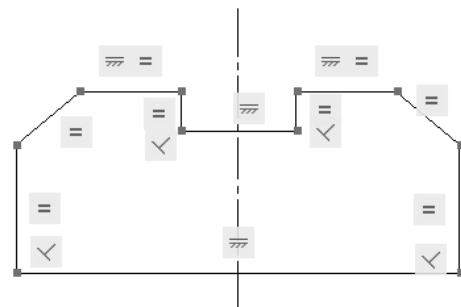

Figure 11-13 Sketch after applying the equal constraint
22. Similarly, apply the equal constraint between the two inclined lines, two small vertical lines, and two small horizontal lines. The sketch after applying all constraints is shown in Figure 11-13.